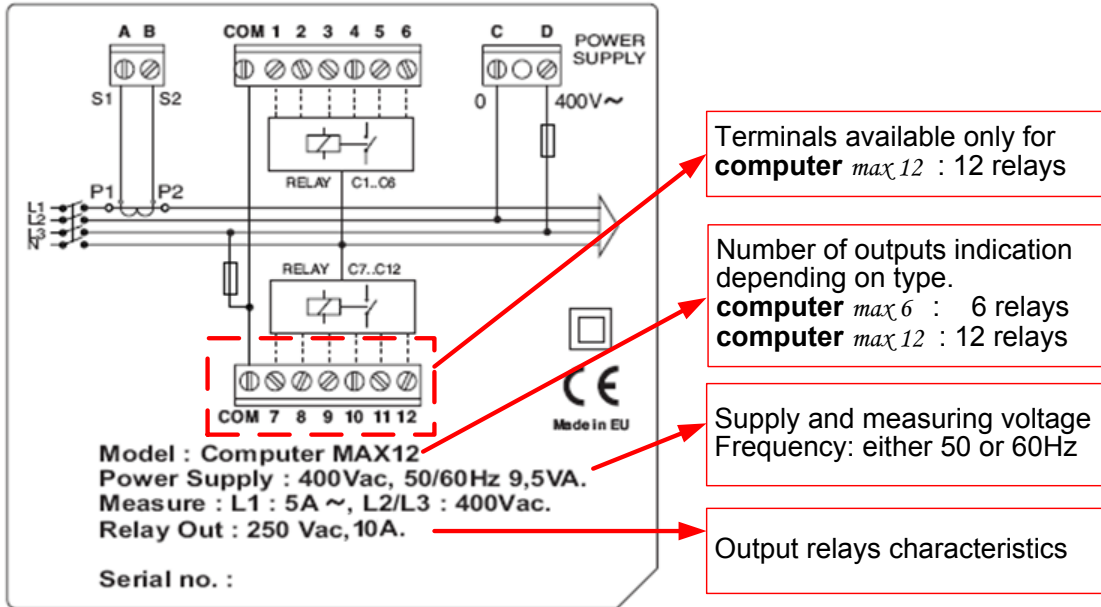

Figure 1: Rear face label.
- a) The device meets the specifications described in your order, (See label at the rear face, **Figure 1**)